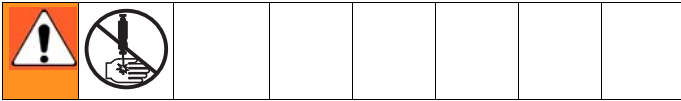

FIG. 4
3. Shut off ProMix™ Auto power (0 position). FIG. 4.